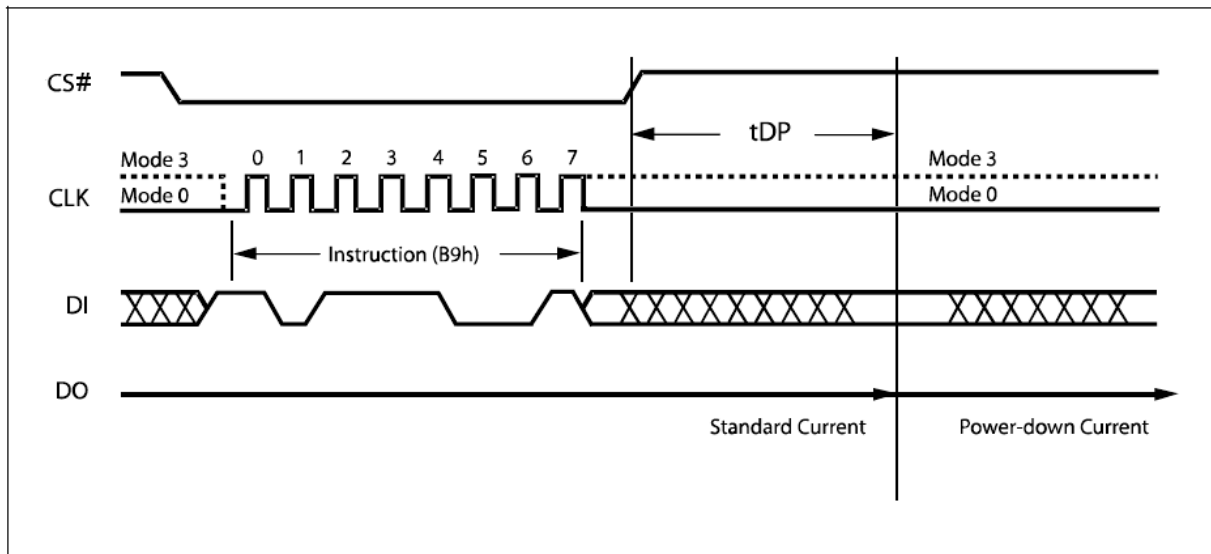

Figure 40. Deep Power-down Instruction Sequence Diagram
The instruction sequence is shown in Figure 40. Chip Select (CS#) must be driven High after the eighth bit of the instruction code has been latched in, otherwise the Deep Power-down (DP) instruction is not executed. As soon as Chip Select (CS#) is driven High, it requires a delay of t_{DP} before the supply current is reduced to I_{CC2} and the Deep Power-down mode is entered.